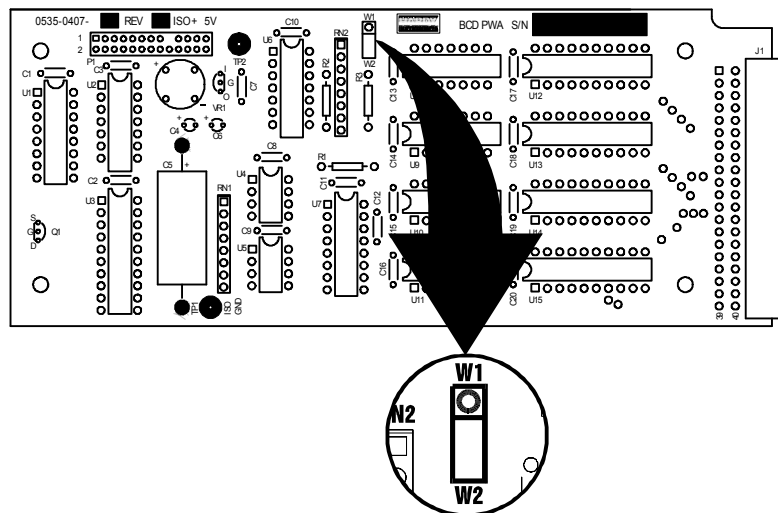

FIG. 4-2 BCD CARD JUMPER LOCATION PRINT/NO PRINT
1. Jumper Location. (See Fig. 4-2)